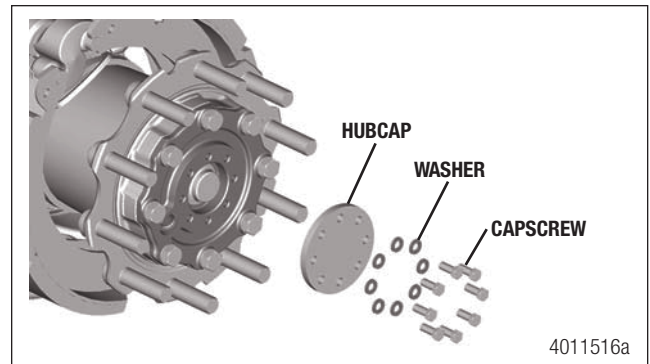

Figure 5.5
3. Remove the capscrews and washers that connect the hubcap to the drive flange. Remove the hubcap. Figure 5.5.